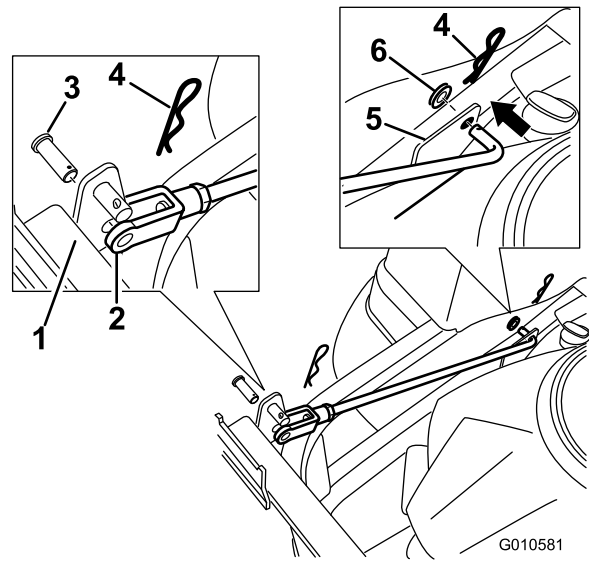

Figure 6
6. Install two support rods, one to each side of the bagger frame. Locate the existing bracket between the rear drive wheel and frame (Figure 6).
7. Insert the bent ends of the rod into the bagger frame as shown in Figure 6. Secure the end of the rod with a washer and hair pin.
- D. Secure the clevis end of the rods to the bagger frame using a clevis pin and hair pin cotter (Figure 6).